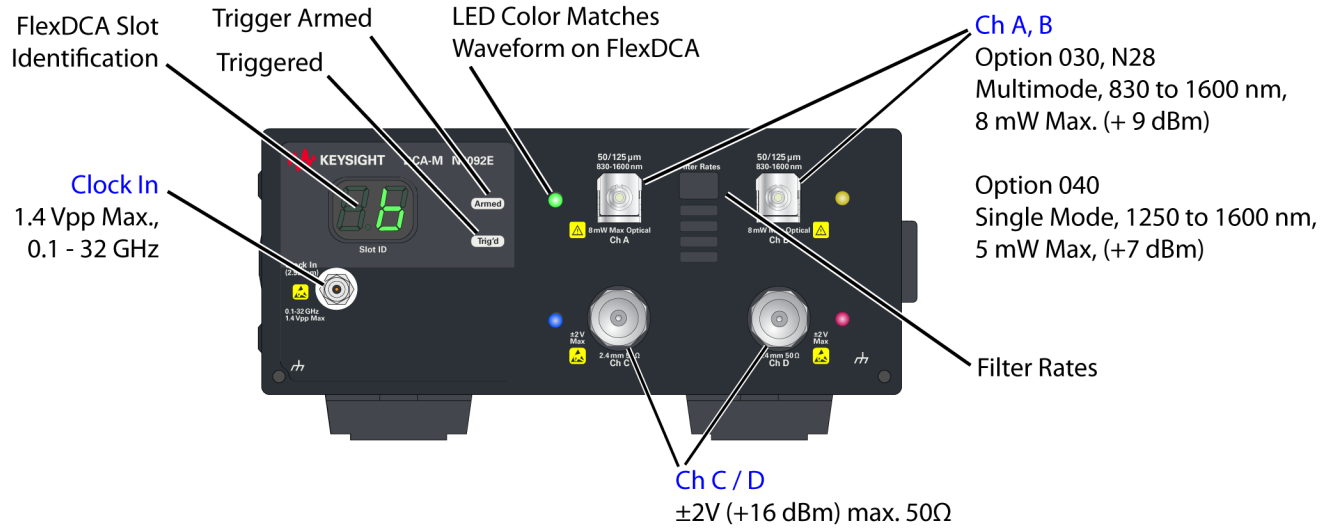

Figure 13. N1092E Front Panel
- *Figure 13, N1092E Front Panel*, on page 35